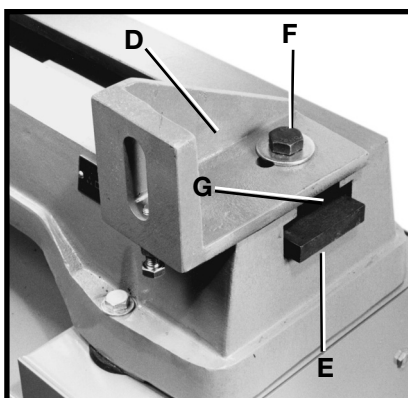

Fig. 11
4. Insert clamping plate (E) Fig. 11 of mounting bracket assembly (D) into channel (G) on tailstock end of lathe bed.